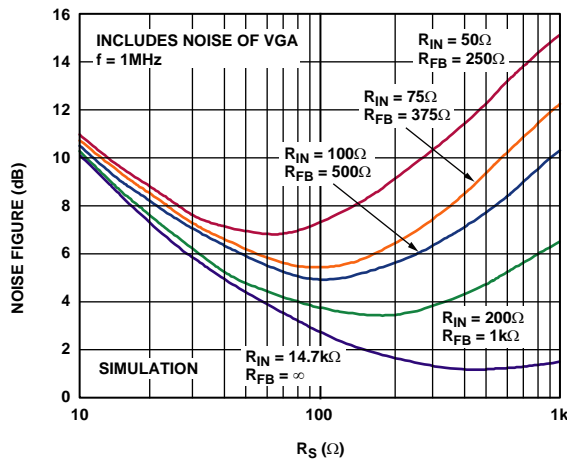

Figure 56. Simulated Noise Figure vs. R_S for Various Fixed Values of R_{IN} , Actively Matched
Figure 56 shows the simulated noise figure (NF) vs. source resistance, and various values of preamplifier R_{IN} from 50 Ω , to 14.7 k Ω , the value seen looking into Pins PIPx when $R_{FB} = \infty$. As shown in the figure, the minimum NF for $R_{IN} = 50 \Omega$ is slightly less than 7 dB. Note that, for this preamplifier, the NF is optimized for the R_{IN} from 50 Ω to 200 Ω ; for $R_{FB} = \infty$, the minimum NF is at approximately 480 Ω . This optimum noise resistance can also be calculated by dividing the input referred voltage noise by the current noise.